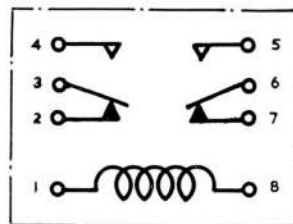

Fig. 3. Circuit diagram
5. In its normal unoperated position (fig. 3), contacts 2 and 3, 6 and 7 are made. When the coil is energized, the lower end of the armature plate is pulled inwards across the pole gap, the upper part above the hinge moving outwards, so breaking the normally-